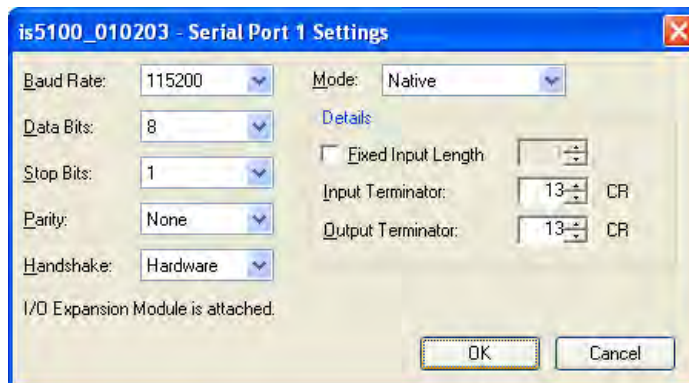

Figure A-4: Serial Port Settings Dialog
4. Select Hardware from the Handshake drop-down list (Figure A-4).